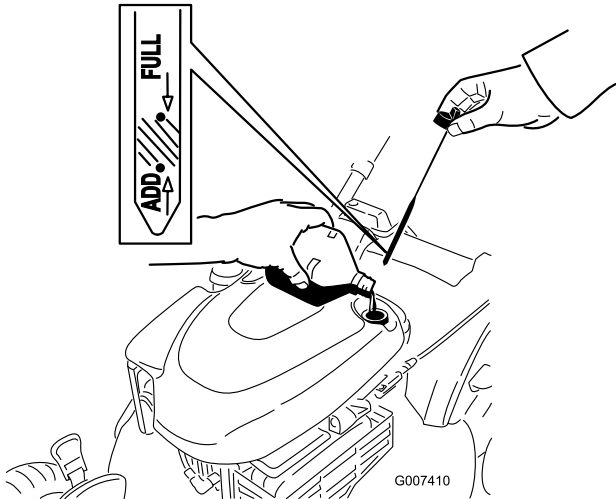

Figure 6
1. Remove the dipstick (Figure 6).
2. **Slowly** pour oil into the oil fill tube until the oil level reaches the **Full** line on the dipstick (Figure 6). **Do not overfill.** (Max. fill: 20 oz., type: SAE 30 detergent oil with an API service classification of SF, SG, SH, SJ, SL, or higher.)